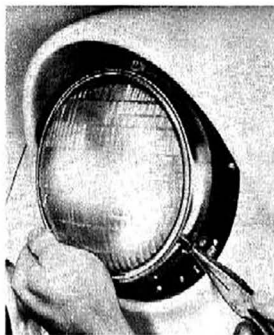

Fig. 63—Unhooking Retaining Ring Spring
2. Unhook the spring from the retaining ring (fig. 63) and disengage retaining ring, sealed beam unit and mounting ring assembly from horizontal and vertical adjusting screws. **DO NOT disturb the adjusting screws.**
8. Engage spring of lamp body in spring slot in retaining ring (fig. 63).